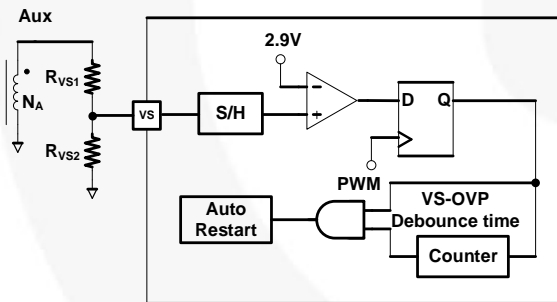

Figure 47. VS-OVP Protection Circuit
VS over-voltage protection prevents damage caused by output over-voltage condition. It is operated in Auto-Restart mode. Figure 47 shows the internal circuit of VS-OVP protection. When abnormal system conditions occur, which cause VS sampling voltage to exceed V_{VS-OVP} (2.9 V) for more than 2 consecutive switching cycles (N_{VS-OVP}), PWM pulses are disabled and FAN602 enters Auto-Restart protection. VS over-voltage conditions are usually caused by open circuit of the secondary-side feedback network or a fault condition in the VS pin voltage divider resistors. For VS pin voltage divider design, R_{VS1} is obtained from Equation (10), and R_{VS2} is determined by the desired VS-OVP protection function as: